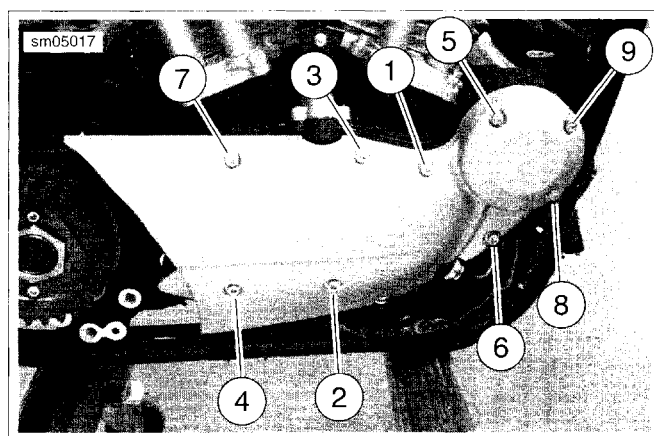

Figure 3-102. Oil Pump Cover Torque Sequence: XR Models
13. Install new o-rings in oil pump cover and install using six fasteners (4). Tighten fasteners to 80-110 **in-lbs** (9.0-12.4 Nm).
14. Install check valve housing using a new base O-ring. Tighten fasteners (3) to 84-108 **in-lbs** (9.5-12.2 Nm).
15. Connect rigid lines (1) and vent hose (2). See 3.14 PRECISION COOLING SYSTEM: XR MODELS, Oil Pump Lines.
16. See Figure 3-102. Install gearcase and oil pump cover. Secure with 9 socket fasteners. Tighten in the sequence shown to 80-110 **in-lbs** (9.0-12.4 Nm).